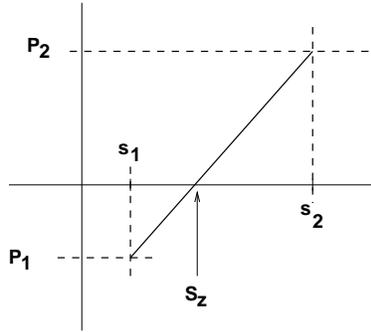

Figure 7: Linear Interpolation
- Use linear interpolation (See Figure 7 to estimate the point in slip where the motor is delivering the right power. the better estimate for slip is: